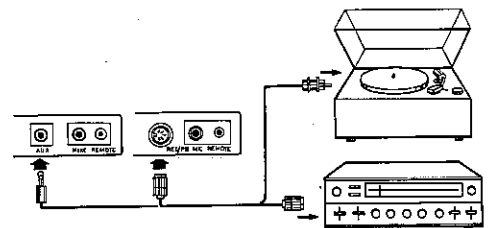

Fig. 11
1. Plug in an optional patch cord (or REC/PB cord) from loudspeaker socket or output of your player, tuner, amplifier or other signal source to AUX (REC/PB) socket of the unit (Fig. 11).